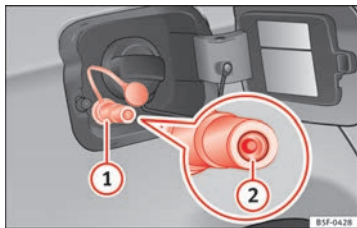

Fig. 159 Tank flap open: gas filler mouth ①, filler mouth retainer ②
- Remove the plug from the gas filler mouth ⇒ Fig. 159 ①.